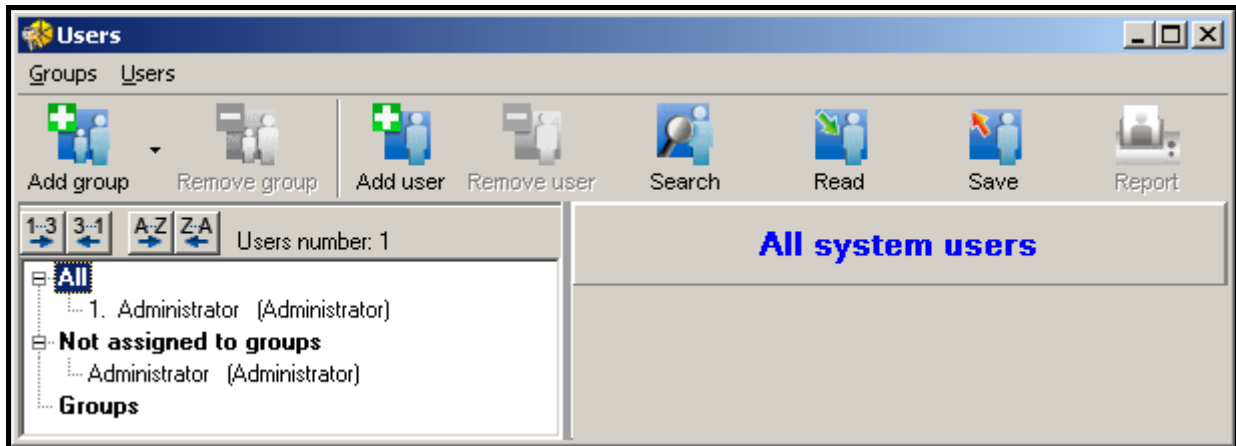

Fig. 24. View of the USERS window before adding the users.
1. Click with your mouse cursor on the button designated USERS, which is available on the program menu bar (see Fig. 22). The USERS window will open (see Fig. 24).
20. End the procedure of user adding by clicking on the SAVE button (see Fig. 24).
1. Click with your mouse on the button designated USERS, available on the program menu bar (see Fig. 22). The USERS window will open (see Fig. 24).
1. Click your mouse on the USERS button on the program menu bar (see Fig. 22). The USERS window will open (see Fig. 24).
1. Click on the USERS button, available on the program menu bar (see Fig. 22). The USERS window will open (see Fig. 24).